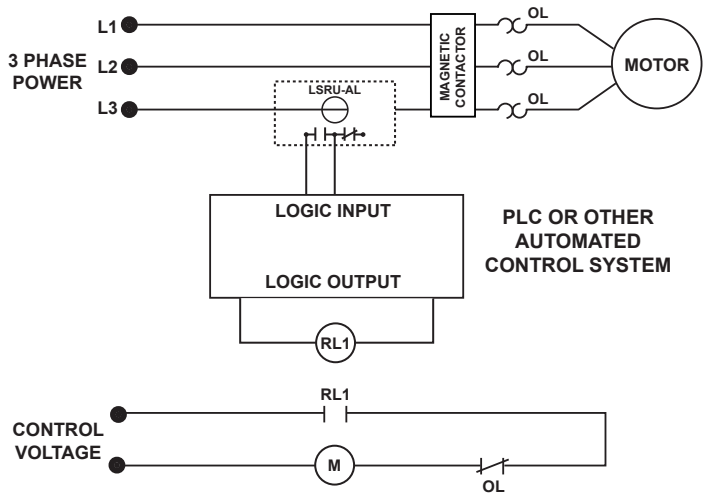

FIGURE 1: TYPICAL WIRING DIAGRAM
5. Connect the output relay to the control circuitry. The proper wiring scheme may vary depending on the required action when a fault occurs. (A wiring diagram is shown in Figure 1 that utilizes the NO contact.)